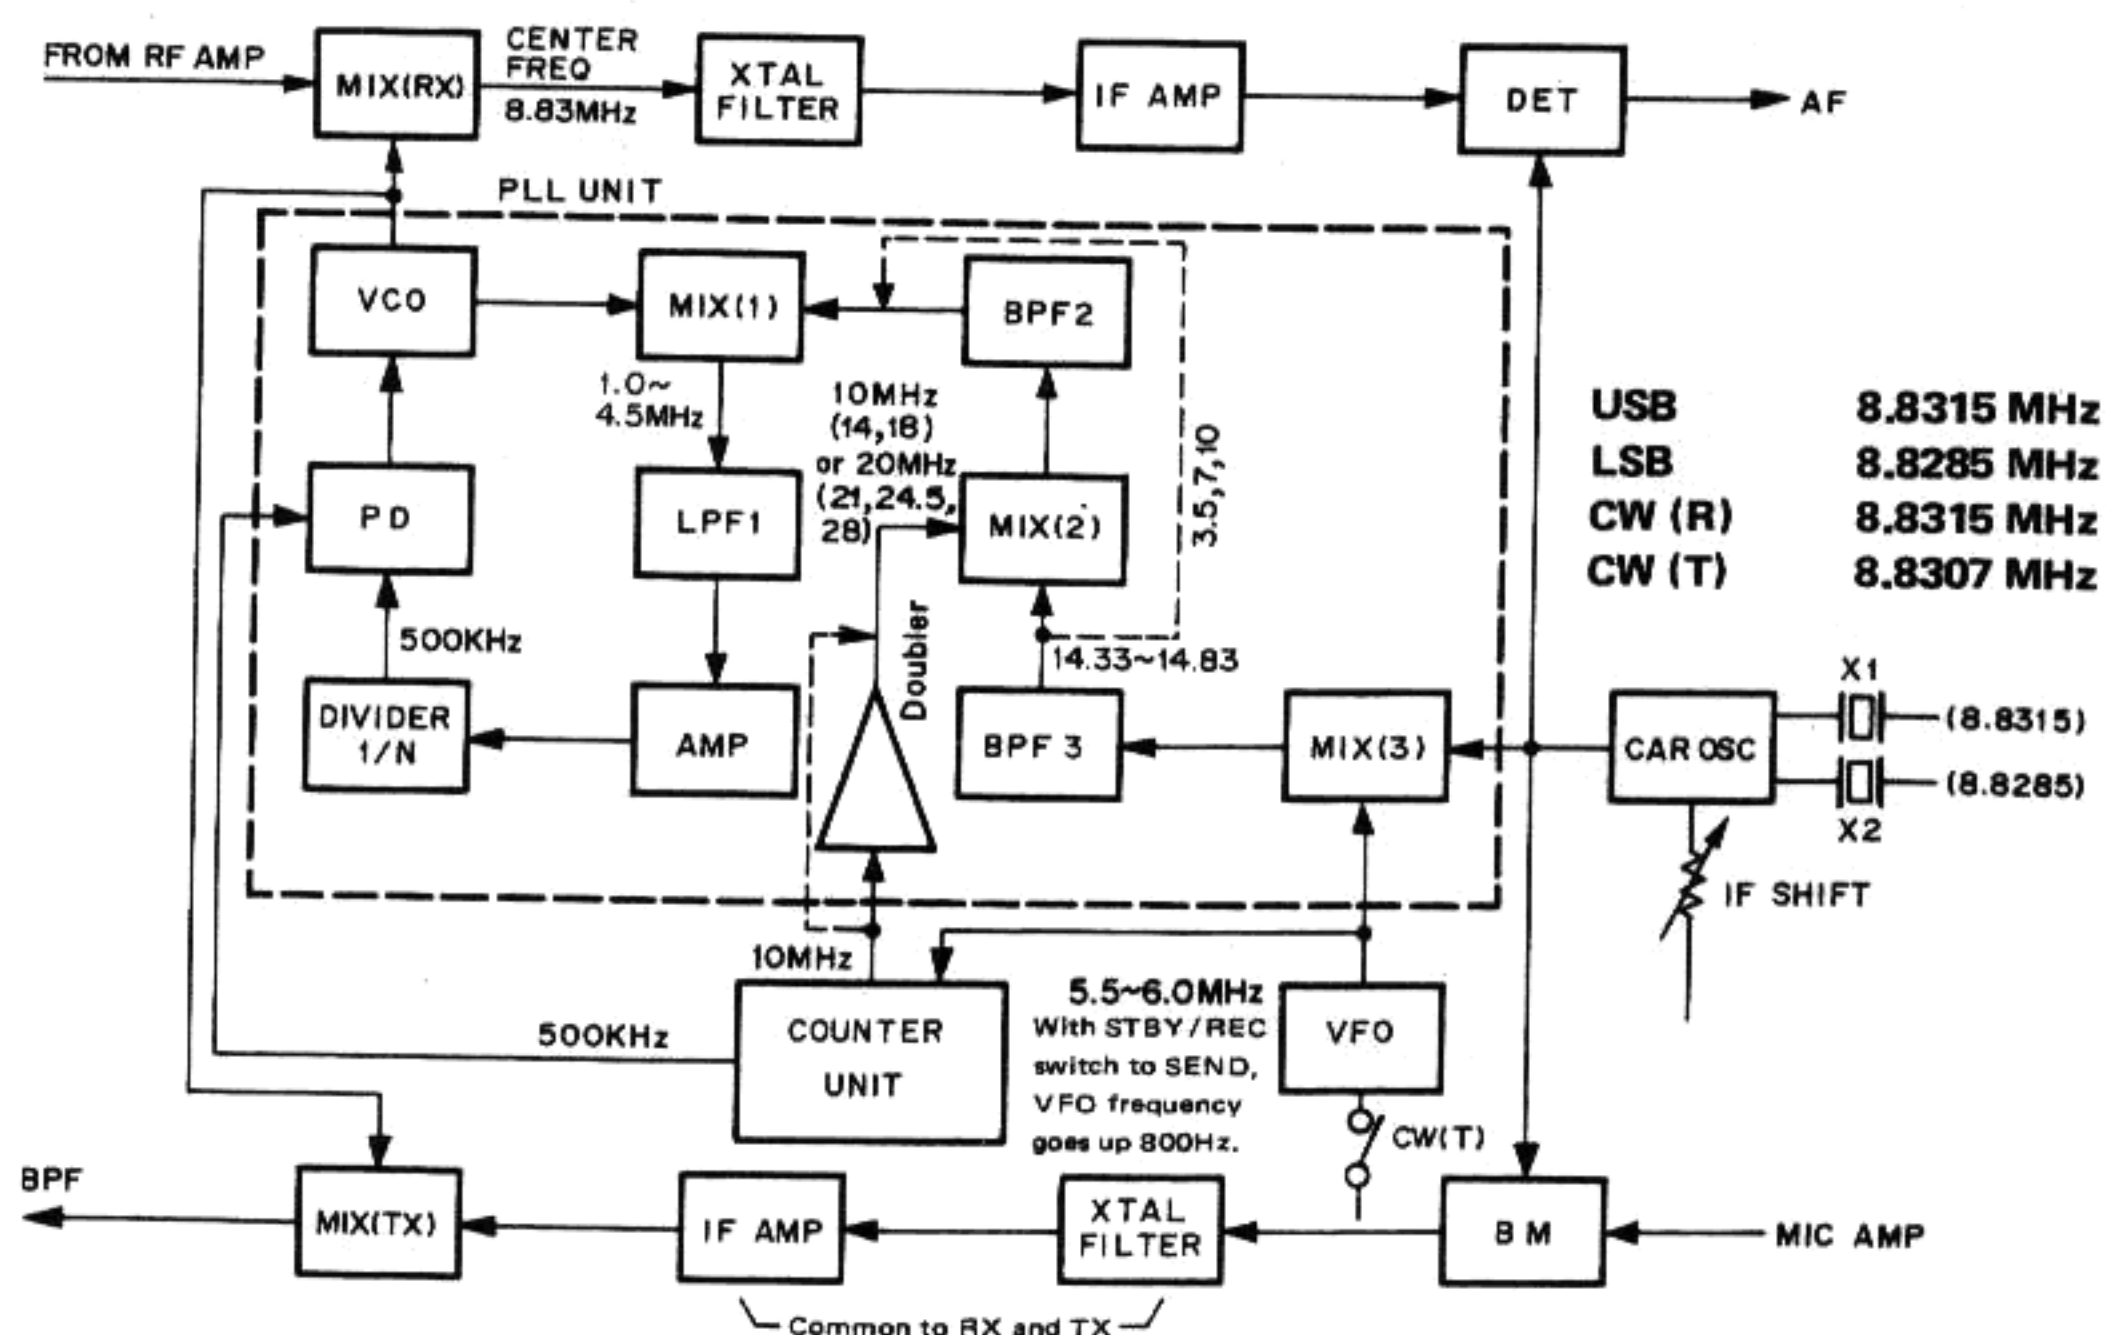

Fig. 1 TS-130 Frequency configuration
The TS-130 employs single conversion with a unique PLL circuit, as shown in Fig.1.
Referring to Fig.1, MIX (3) combines CAR and VFO signals and is operated straight through to mixer (1) on 3.5, 7 and 10 MHz. MIX (2) operates at 14 MHz and above with the output of MIX (3) to provide mixer (1) input, as shown in Table 4. MIX (1) output is filtered, amplified, shaped and divided by the programmable divider to obtain 500kHz output.